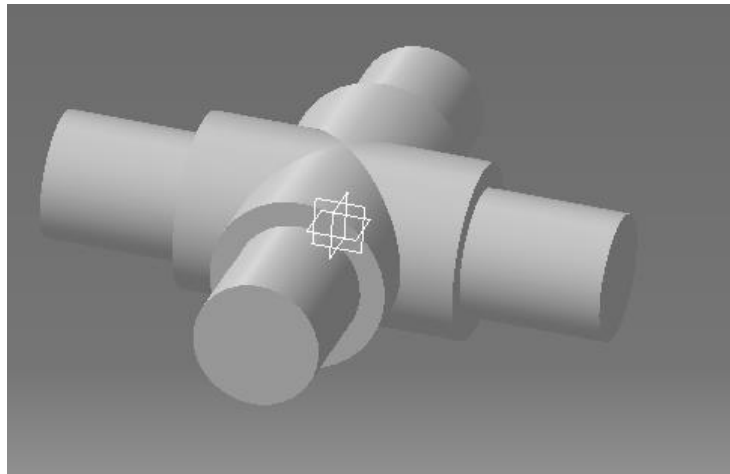

Figure 1.9
- 1.28 Select the **OK** button. At this point your part should look similar to the one shown in Figure 1.9.